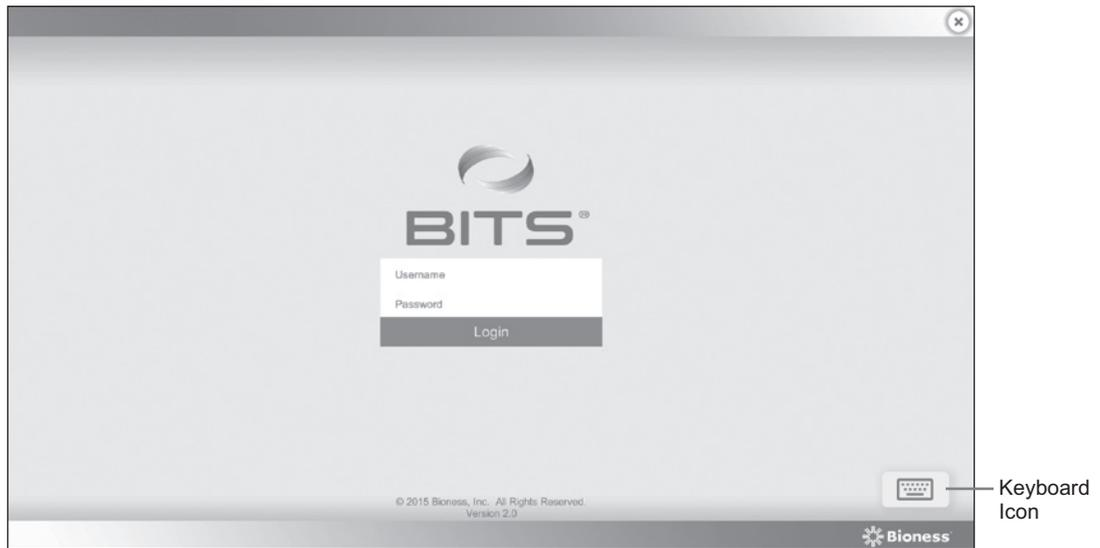

Figure 27: BITS Login Screen
- The BITS Login Screen will open. To open the on-screen keyboard, press the Keyboard Icon located at the bottom right of the screen. See Figure 27.